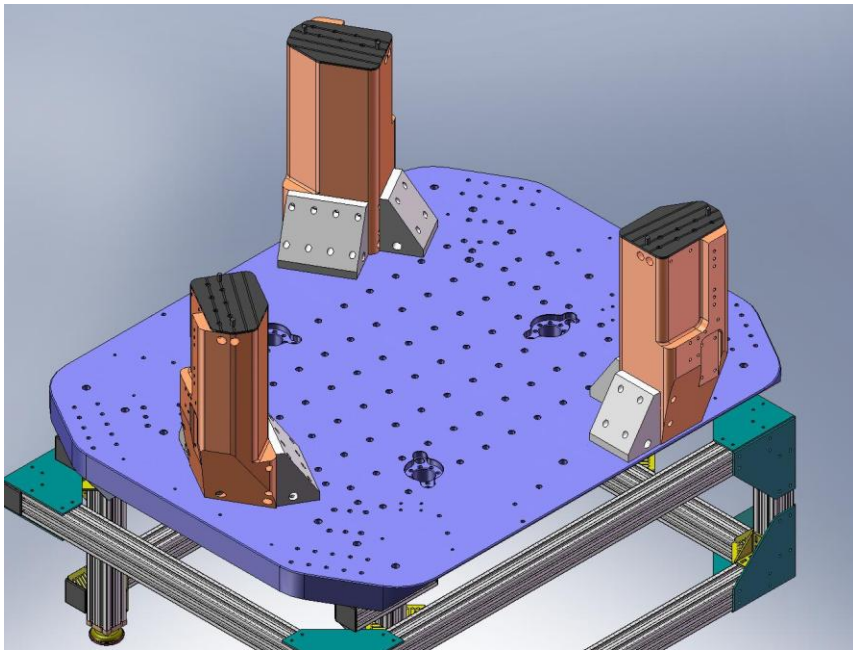

Figure 1.19. Place (3) Main and (3) Auxiliary Support Post Gussets against the sides of the Support Posts. Orient as shown in this image.
- Place (6) **Support Post Gussets** (D071004 and D071005) on **Stage 0 Base**, next to **Support Posts**. Proper orientation is shown in Figure 1.19.